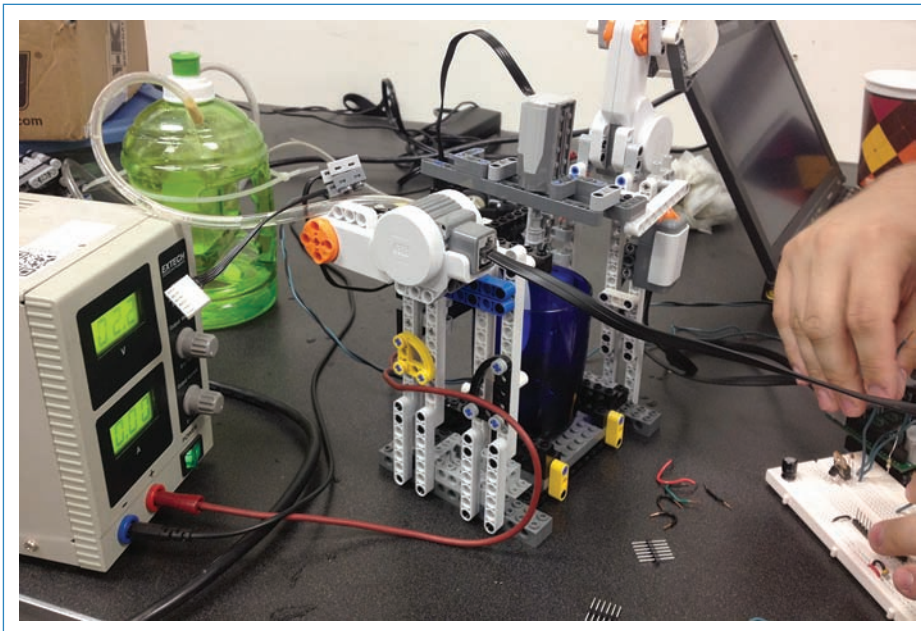

FIGURE 7.1 This LEGO chocolate milk-making robot uses a pressurized reservoir (the green jug) to pump milk.
- **Pressurized reservoir**—This is a container of liquid that is pressurized with an air pump, forcing liquid out of an exit tube (see Figure 7.1).